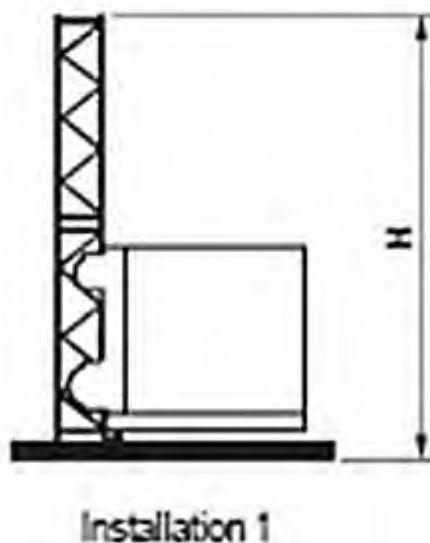

Figure 4.3
- Figure 4.3, the first wall anchor is set at 9.84 ft from the base and is a temporary wall anchor to be removed after other wall anchors are installed, the next wall anchor is set 19.68 ft from the base and is the first of the permanent wall anchors, the subsequent anchors after this wall anchor are spaced at a maximum interval of 19.68 ft. The topmost part of the mast after the last anchor cannot and must not exceed 9.84 ft.